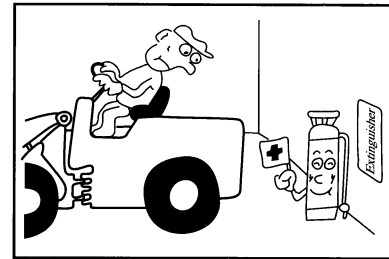

Figure1-80
- Prepare several fire extinguishers before working inside a enclosed room, and bear in mind its location and using method. (Figure 1-80)